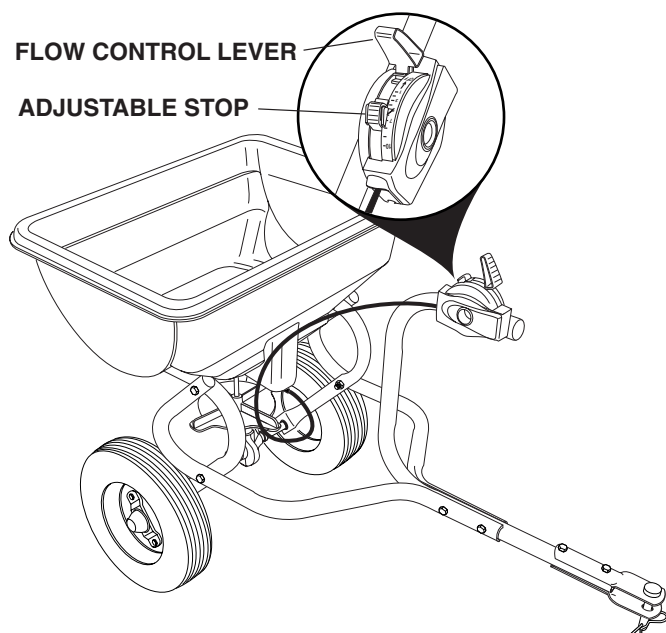

FIGURE 5
2. Move the Flow Control Lever until it snaps into the Adjustable Stop, locking the lever at the desired setting. See figure 5.